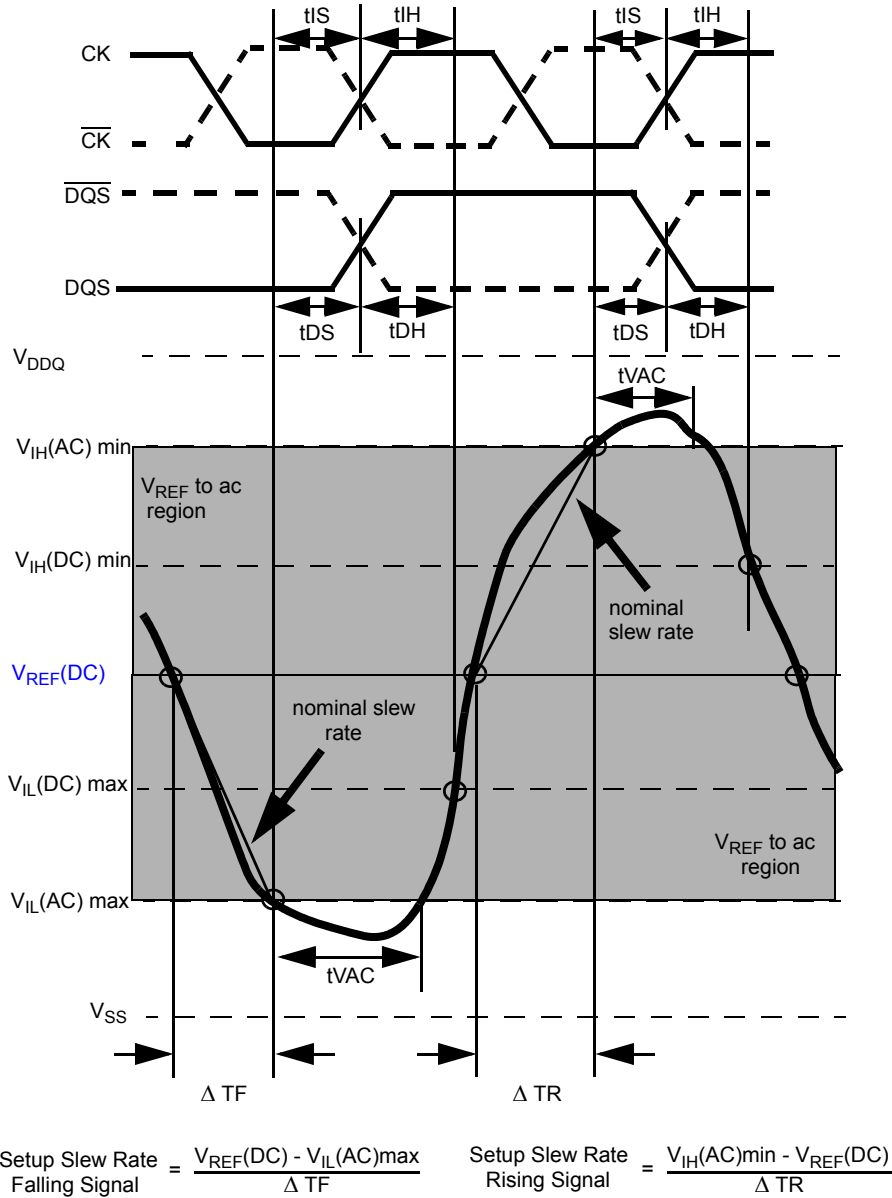

Figure 21. Illustration of nominal slew rate and t_{VAC} for setup time t_{DS} (for DQ with respect to strobe) and t_{IS} (for ADD/CMD with respect to clock).
Example: tIS (total setup time) = tIS(base) + ΔtIS Setup (tIS) nominal slew rate for a rising signal is defined as the slew rate between the last crossing of V_{REF}(DC) and the first crossing of V_{IH}(AC)min. Setup (tIS) nominal slew rate for a falling signal is defined as the slew rate between the last crossing of V_{REF}(DC) and the first crossing of V_{IL}(AC)max. If the actual signal is always earlier than the nominal slew rate line between shaded 'V_{REF}(DC) to ac region', use nominal slew rate for derating value (see Figure 21). If the actual signal is later than the nominal slew rate line anywhere between shaded 'V_{REF}(DC) to ac region', the slew rate of a tangent line to the actual signal from the ac level to dc level is used for derating value (see Figure 23).